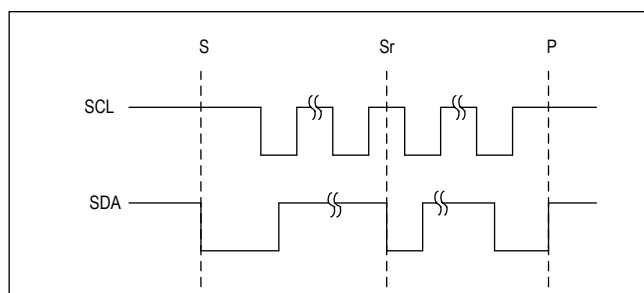

Figure 5. I²C START, STOP, and REPEATED START Conditions
When writing to the device using I²C, the master sends a START condition (S) followed by the device I²C address. After the address, the master sends the register address of the register that is to be programmed. The master then ends communication by issuing a STOP condition (P) to relinquish control of the bus, or a REPEATED START condition (Sr) to communicate to another I²C slave. See Figure 5.